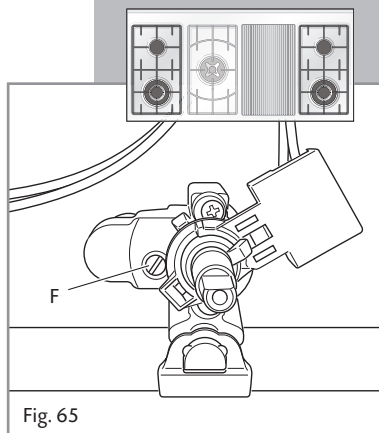

Fig. 65
- With a thin screwdriver turn the screw **F** until adjustment is correct (fig. 65).